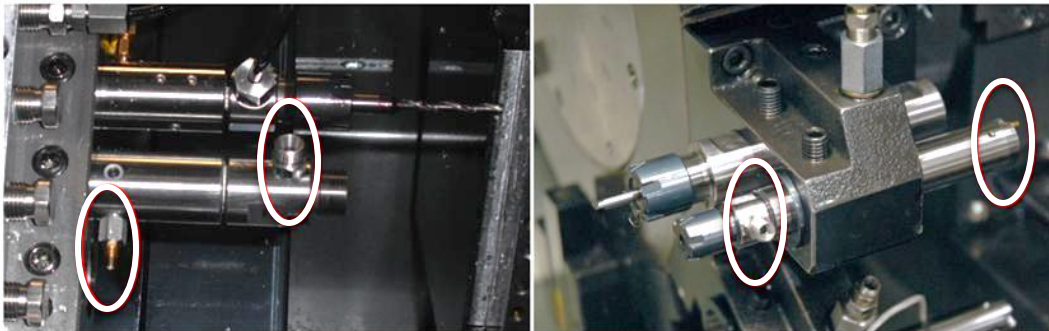

Figure 3. TriboMAM installed with convenient access from machine front. Standard SSMBR/SSMCR port position shown in left, optional port position shown in right.
2. Install the TriboMAM in the tool post in an orientation such that the electrical connector and coolant fittings are easily accessible. If the SSMB/SSMC-type electrical connector is in the optional port location, the fitting will be attached at the TriboMAM rear as shown in Figure 3.